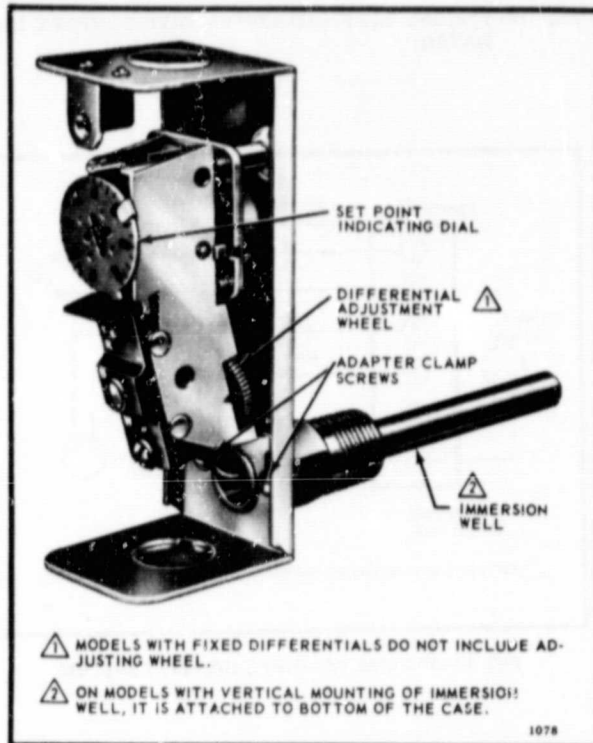

FIG. 11—INTERNAL VIEW OF L6006A.
- Loosen screw (at top case, above scale-setting), and remove cover. Loosen two screws that secure adapter clamp. See Fig. 11.